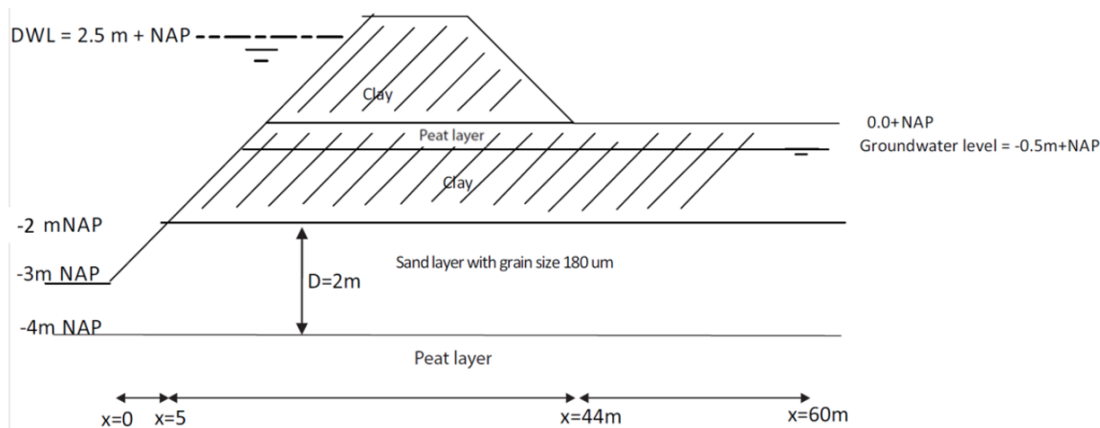

Figure 1: Cross-section of a dike and subsoil.
- 2.4 Given the clay dike in figure 1. Compute if there is a danger for uplift under design conditions. Sea level rise, local surge, uncertainty additions and settlement can be neglected. Give the value of the critical water pressure difference for uplift (dH_{crit} in [m]) and the actual hydraulic head difference for uplift corrected for the partial safety factor (see equation form) ? Explain your calculation and state if uplift is expected to occur or not. (3 points)
- 2.5 Copy figure 1 on your answer sheet and sketch the minimum normative slip circle (approximately). Assume that uplift occurs and explain how uplift affects macrostability. Indicate in the sketch and explain where all the driving and resisting forces for macrostability are located and how they might lead to failure of the dike. You can assume a saturated situation. (4 points)